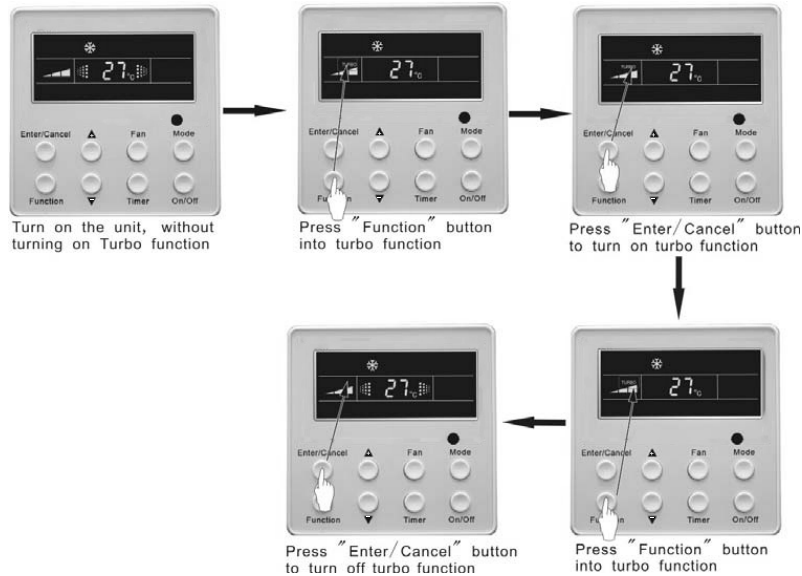

Fig.14 Turbo Function Setting
**TURBO** function setting is shown in Fig.14: